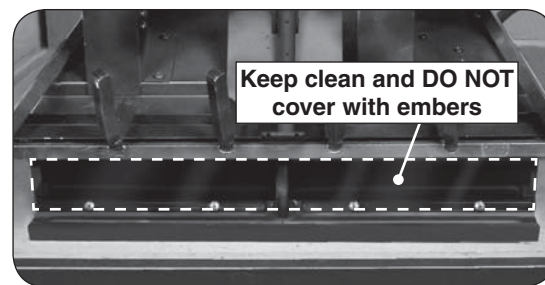

Fig. 10-4 Ensure a clean panel
**Note:** Ensure the porcelainized panel is clean of all dust. Use a clean soft cloth if necessary. See Fig. 10-4.